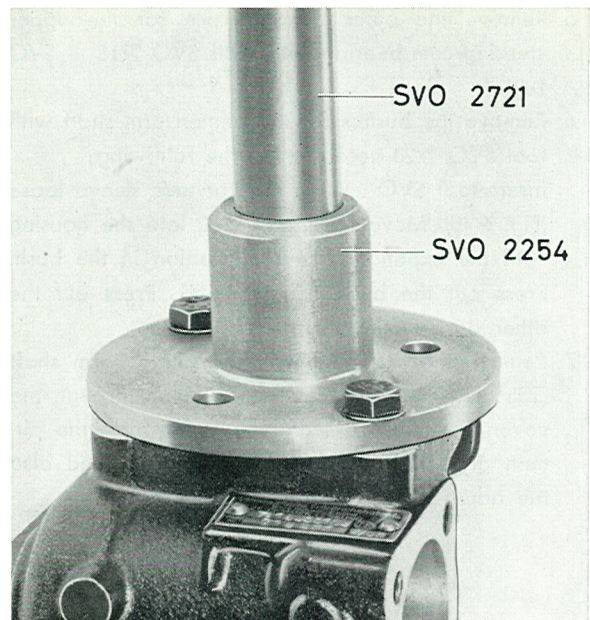

Fig. 6-44. Reaming the pitman arm shaft bush
10. Fit guide SVO 2254 and ream the bushes with reamer SVO 2721, see Fig. 6-44.
11. Press in the outer bearing race for the upper bearing with tools SVO 2717 + SVO 1801. Fit the oil seal (9) for the steering cam.
12. Insert the steering cam with bearing and outer race (18) and washer (21). Fit the shims (22) and cover (19). Place the pitman arm shaft in a vice in such a way that the steering cam is horizontal. Tighten the cover and check the tension on the bearing. For correct tensioning, a torque of 1—25 kg/cm (6—14 lb.in.) is required to turn the steer-